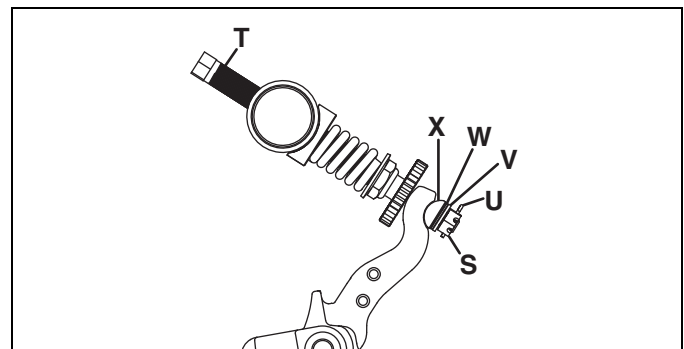

Figure 9G
1. Remove cotter pin **(U)**, slotted nut **(S)**, bellville washer **(V)**, shim washer **(W-if required)**, and half trunnion **(X)**. **See Figure 9G**